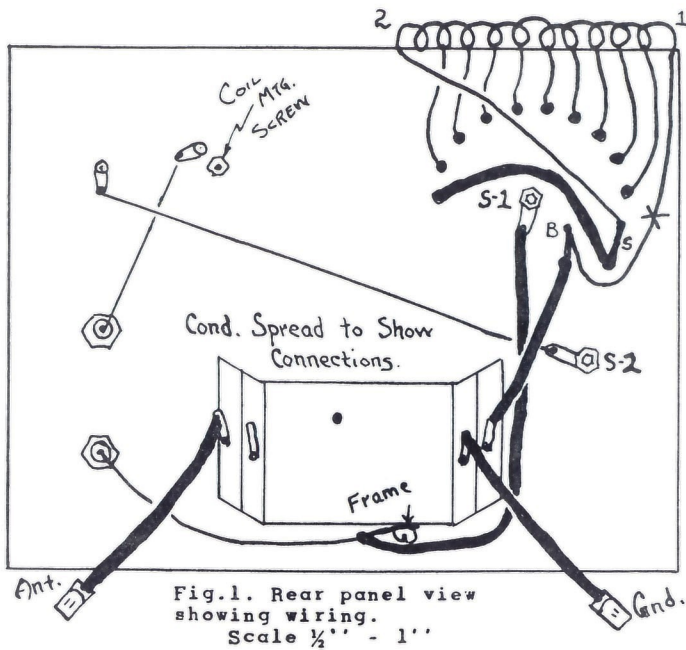
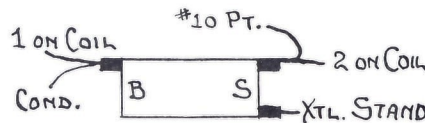

Fig. 1. Rear panel view showing wiring.
Fig. 5. Connections when substituting SPDT Toggle Switch for S-B switch lever.
**WIRING.** For solid, heavy leads on Fig. 1. use the largest Hook-up wire. Busbar may also be used if desired. RF travels better on large wire, and it helps a lot in DX reception of Short waves. Use smaller wire for the unshaded leads and coil leads. On the latter the large wire would be harder to handle. Wire up all of the set except the coil, which is mounted later. After making a soldered joint, yank the connection to see if OK. Also, tighten all nuts after soldering. Most trouble is had by loose joints.
**SELECTIVITY** is the desire of most Crystal set users. The S-B switch gives sharper tuning on the SElective side. You may substitute a SPDT toggle switch for the 2-point lever as shown Fig. 5. For very troublesome stations with strong ground waves cut the coil lead (X) Fig. 1 & 4 and insert a MRL QRM Coil primary. Set a trimmer, or .00035 var. cond. on bothersome station and leave it. Tune balance of set as usual and it will cut it out, as well as sharpen the set.